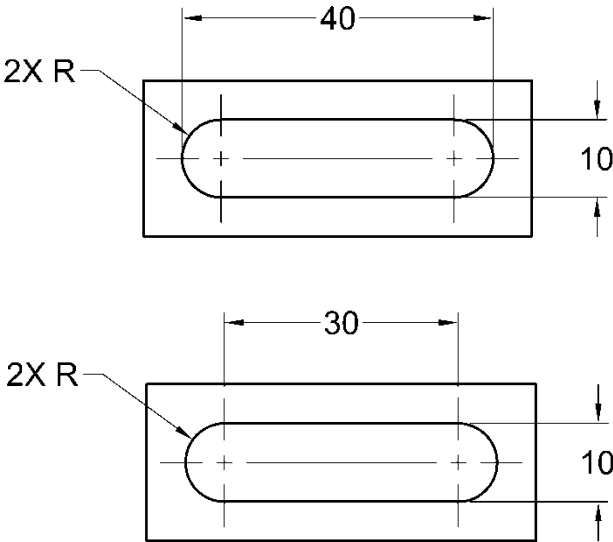

Figure 2-11: Slots
c) Slots are dimensioned by giving their overall dimensions or by giving the overall width and the distance between centers as shown in Figure 2-11. The radii are indicated but the value is not given.